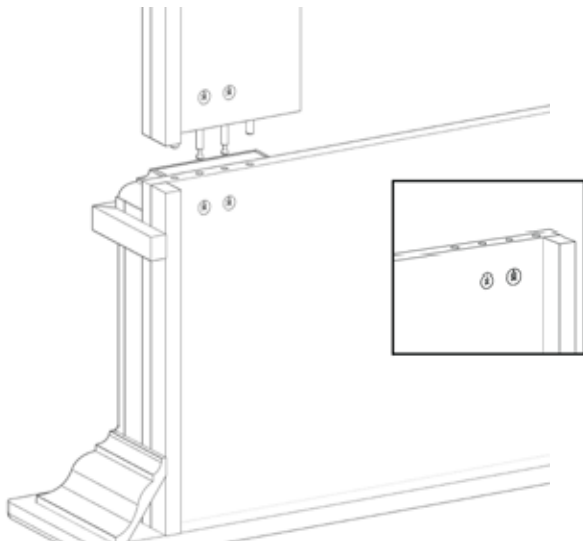

Figure 5
2. Attach one leg assembly (B) to breastboard assembly by inserting dowels and cam pin into matching holes on ends of breastboard. Before inserting, make sure that the arrow on the cam in breastboard points toward the edge of board as shown in inset. (Dowels and cam pin are shipped pre-inserted in the end of the leg assembly.) Notice as you work that returns on legs go to the outside and cam goes to the rear. Your mantel could have 2 or 4 cams on each legs. See Figure 5.